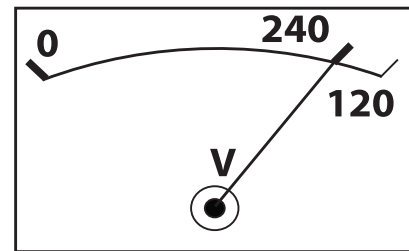

Figure 51. AC Voltmeter (Normal)
4. Verify that the AC voltmeter is registering a voltage reading as shown in Figure 51.